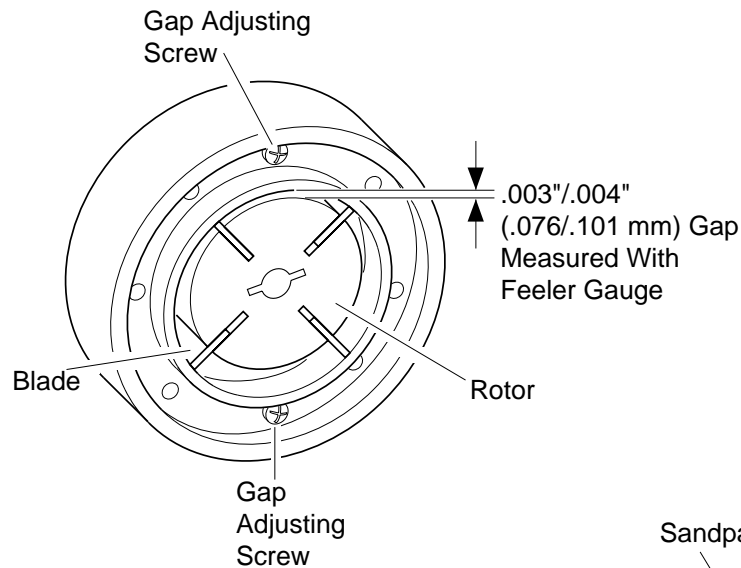

Figure 18 - Gap Adjusting Screw Locations
9. Check gap on rotor. Adjust to .003"/.004" (.076/.101 mm) if needed (see Figure 18).